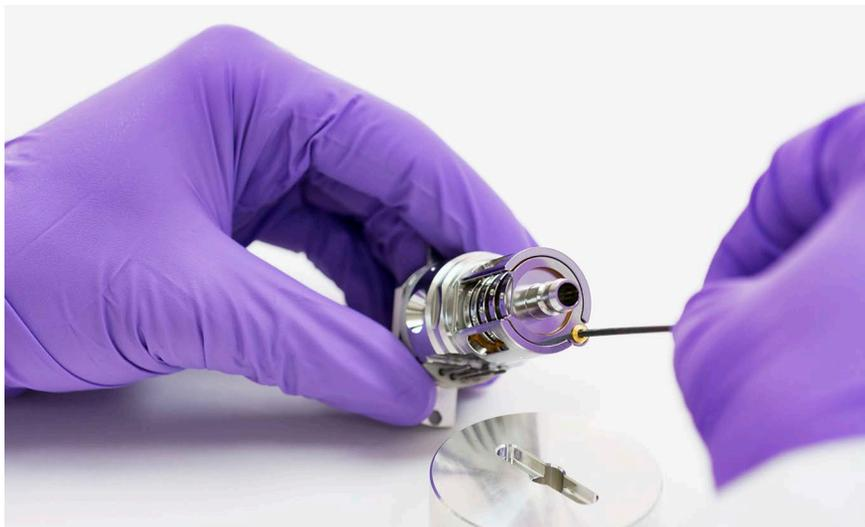

Figure 54 Secure the lens screw and lock ring insulator
- 4 Using the T6 Torx driver, install and secure the gold plated setscrew and lock ring lens insulator that holds the lens assembly in place. (See Figure 54 on page 159.)